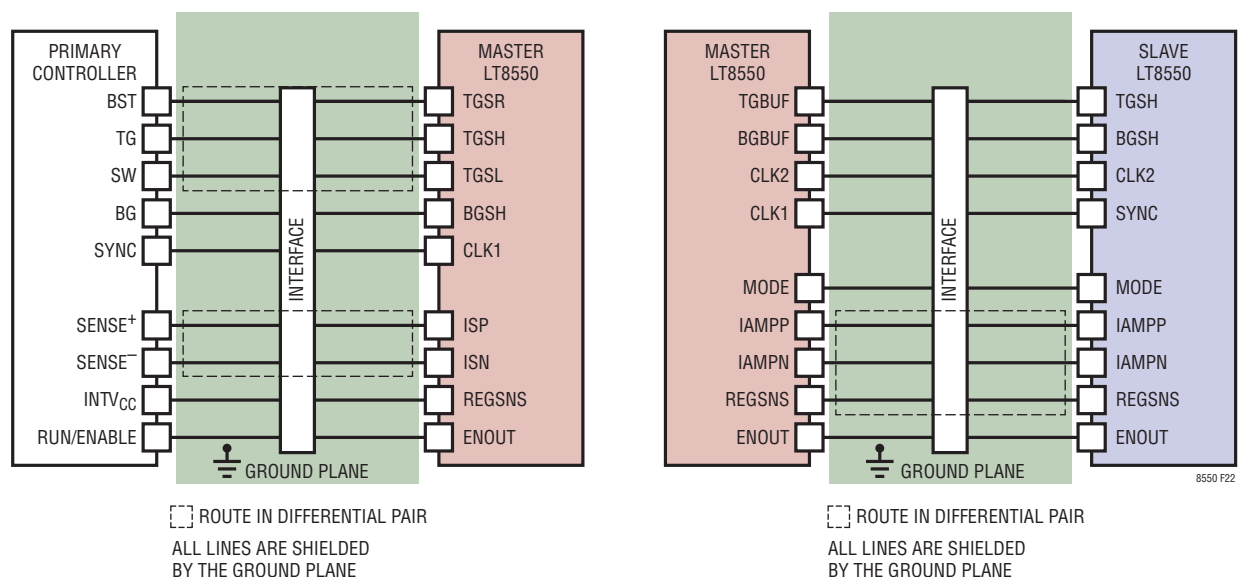

Figure 22. Recommended Signal Lines Arrangement for PCB
- When routing the interface signals between a master LT8550, primary controller, and/or slave LT8550, keep the small-signal lines far from the noisy lines and shield these lines with a ground plane. A recommended line arrangement is shown in Figure 22.